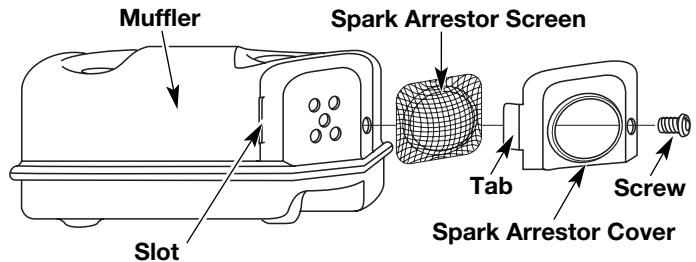

Fig. 24
2. With a flat blade screwdriver or Torx T-20 bit, remove the screw attaching the spark arrester cover to the muffler (Fig. 24).